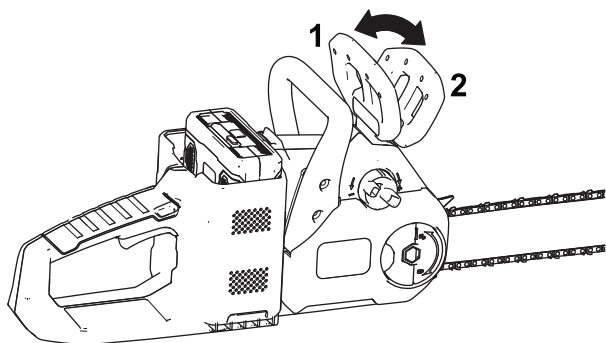

Figure 8
6. Ensure that the chain brake is in the OPERATING position (Figure 8).
Whenever you are not using the saw or are transporting the saw to or from the work area, move the chain brake to the STOP position (Figure 8) and remove the battery.